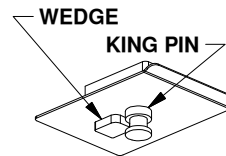
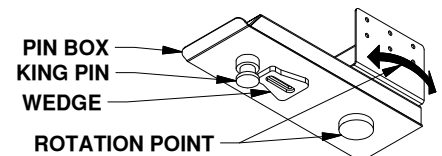

Figure F1: Capture plate.
Figure F2: Pin box with rotation point.
**WARNING:** Towing a trailer without a functioning pivot point between the hitch & trailer will cause significant damage to the hitch which may lead to serious injury or death. Some pin boxes such as a Pull-rite® Superglide Capture Plate remove the pivot point between a trailer and coupler and should not be used, See Figure F1. Pin boxes with a wedge that relocates the pivot point such as a Reese® Sidewinder or Reese® Revolution may be used, see Figure F2.